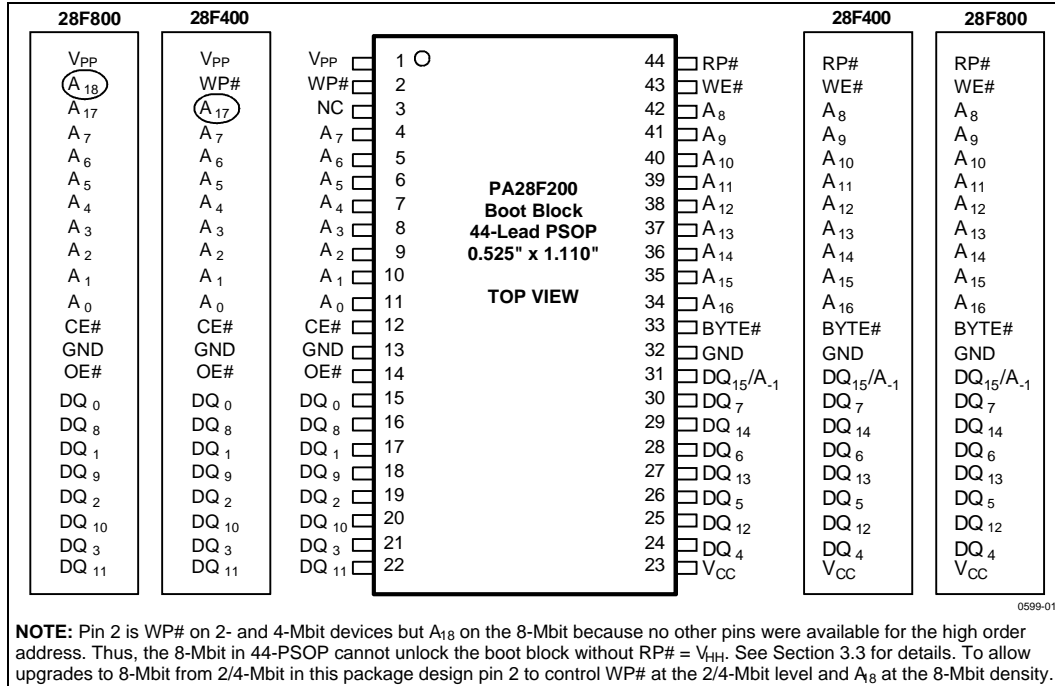
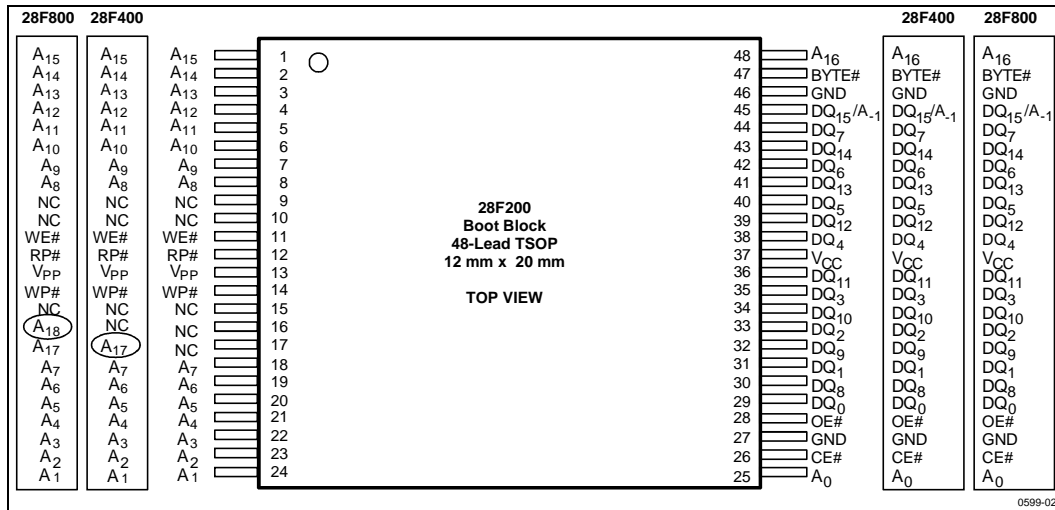

Figure 1. 44-Lead PSOP Pinout Diagram
Figure 2. 48-Lead TSOP Pinout Diagram
-002	Minor changes throughout document. Section 3.1.5 and Figure 13 redone to clarify program/erase operation abort. Information added to Table 2, Figure 1, and Section 3.3 to clarify WP# on 8-Mbit, 44-PSOP. Read and Write Waveforms changed to numbered format. Typical numbers removed from DC Characteristics and Erase/Program Timings.
-003	Minor text changes throughout document. Figure 1, 44-PSOP pinout: mistake on pin 3 on 2-Mbit pinout corrected from A ₁₇ to NC. Specs t_{EHQZ} and t_{GHQZ} improved. Explanations of program/erase abort commands reworked in Table 6, Command Codes.
These Smart 5 memory products are available in the 44-lead PSOP (Plastic Small Outline Package), which is ROM/EPROM-compatible, and the 48-lead TSOP (Thin Small Outline Package, 1.2 mm thick) as shown in Figure 1, and 2, respectively.
Intel's Smart 5 boot block architecture provides upgrade paths in each package pinout up to the 8-Mbit density. The 44-lead PSOP pinout follows the industry-standard ROM/EPROM pinout, as shown in Figure 1. Designs with space concerns should consider the 48-lead pinout shown in Figure 2.